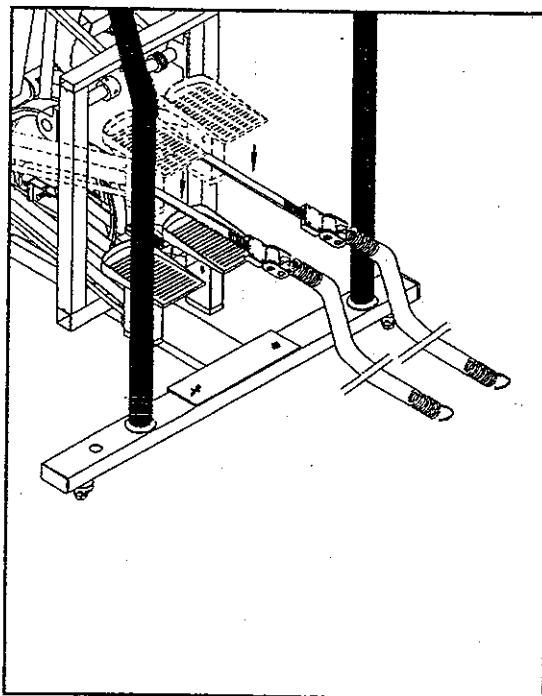

Fig. 9
8. Lower the foot pads to their lowest position, then slide out the springs (see Fig. 9).